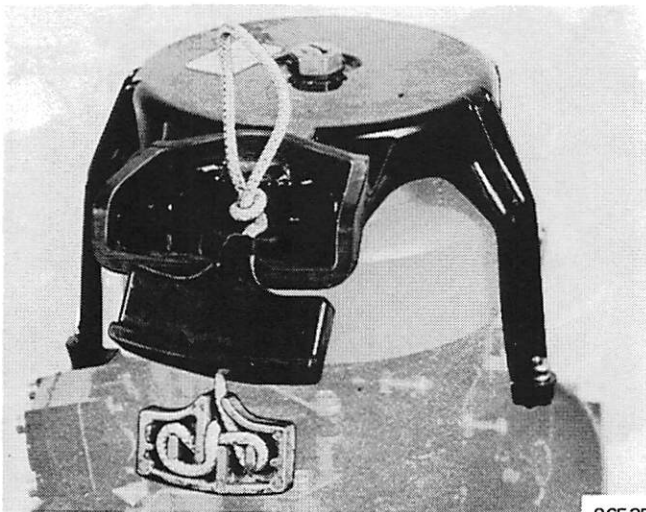

Figure 1. Removing Starter Rope Handle
2. Pull starter rope and tie in slip knot. Remove rope handle. (Figure 1)
5. Remove nuts, bolts and screws and remove rewind starter. (Figures 1 and 4)